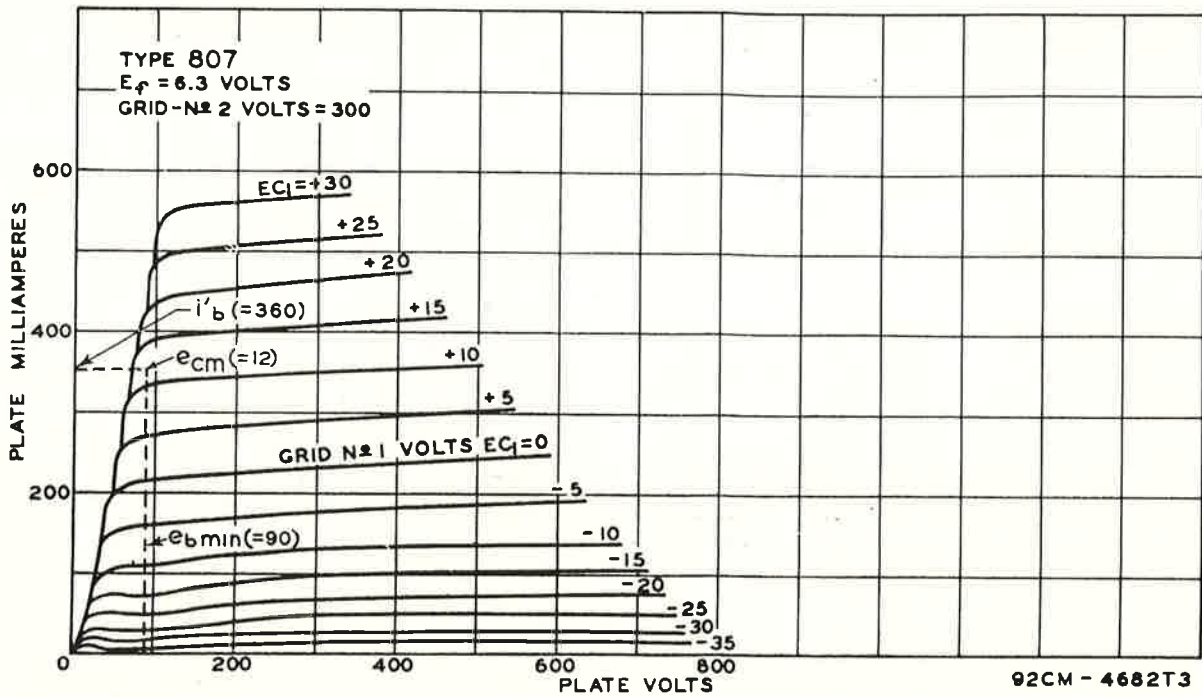
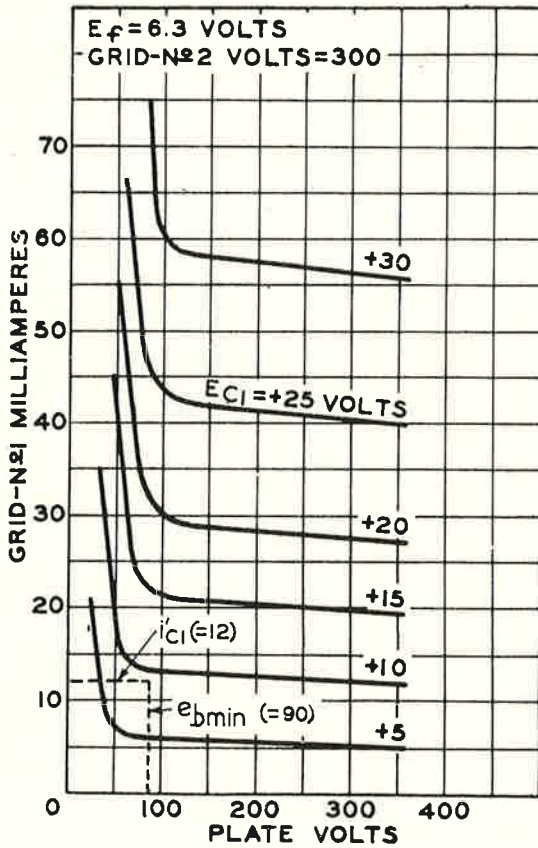

Fig. 1. Average plate characteristics for the type 807 tube (grid-No. 2 voltage = 300).
Fig. 2. Average control-grid characteristics for the type 807 tube grid-No. 2 voltage = 300).
3. $i'_b = 3I_{bms} = 3 (120) = 360 \text{ ma}$.
4. From the 300-v E_{c2} curves, Fig. 1, select e_{bmin} = 90 v, and read e_{cm} (= + 12 v). From Figures 2 and 3, read $i'_{c1} = 12 \text{ ma}$, and $i'_{c2} = 35 \text{ ma}$, respectively.
10. E_{c1} (from Fig. 1) = -35 v.